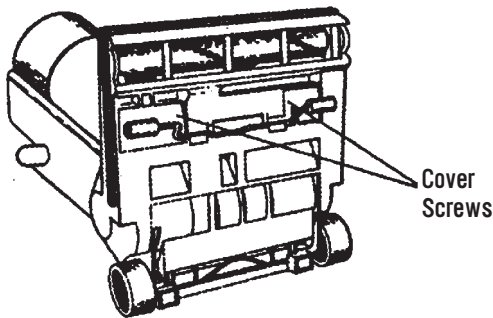

Figure 20b
3. Unscrew the screws located under the Rotary Brush. (See Figure 20b.)